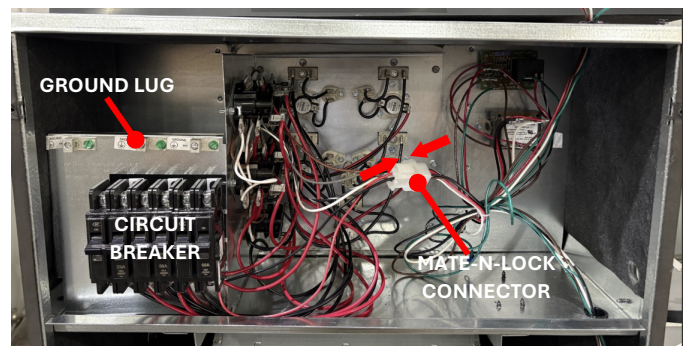

FIG. 3
- 5) Slide the heater kit into the slot where you took the block off plate and secure it by replacing back the 5 screws (see FIG. 3)
- 6) Insert power leads into the circuit breaker lugs or terminal block and tighten (see FIG. 3)
- 7) Connect ground wire to ground lug (see FIG. 3)
- 8) Plug in the Mate-N-Lock connector (see FIG. 3)